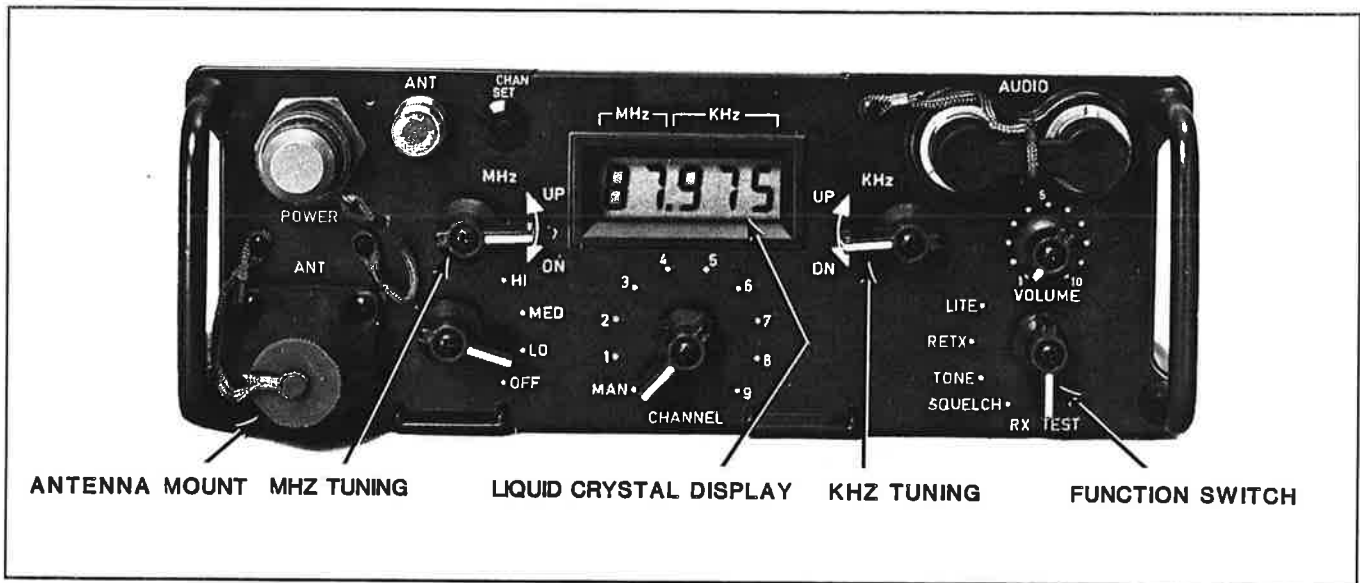

FIGURE 3-1.
(1) Remove the cover from the ANT mount (Figure 3-1).
(2) Screw the bottom of the AT-892/U into the ANT mount.
- (1) Remove the cover from the ANT mount (Figure 3-1).
- (2) Screw support, antenna AB-591/U into the ANT mount.
- (3) Extend the AT-271A/U by holding the base section (the heaviest section) and carefully whipping it outward. If all sections are not secure, insert the sections by hand.
- (4) Secure the extended AT-271A/U into the AB-591/U.
3-1. Transceiver, Radio PRC1077, Controls, Indicators and Connectors (Figure 3-1)